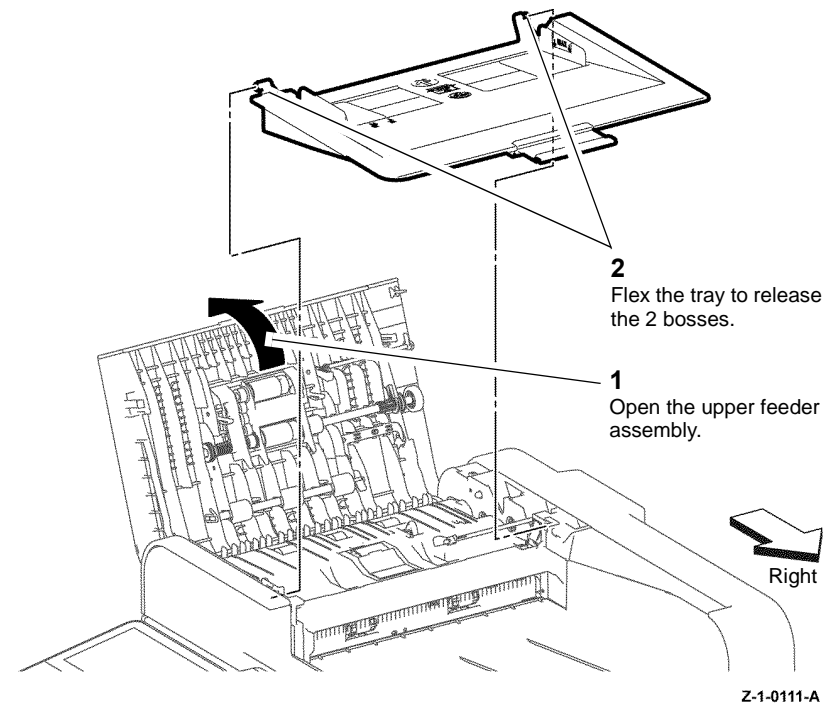

Figure 1 DADF input tray
1. Remove the DADF tray assembly, Figure 1.